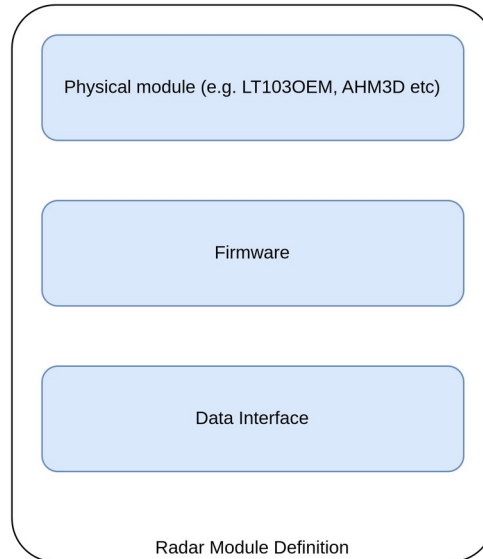

Fig. 2: Radar Module Definition
- A set of radar modules definitions: a radar module is a description of one specific UWB module, with the firmware it runs, and its interface with the PC (Fig. 2);